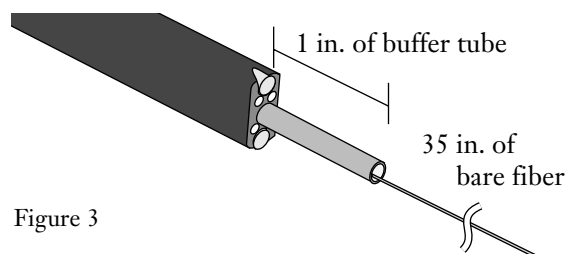

Figure 3
**5.2** Remove 35 inches of buffer tube and clean the fiber per your company's standard practice (Figure 3).